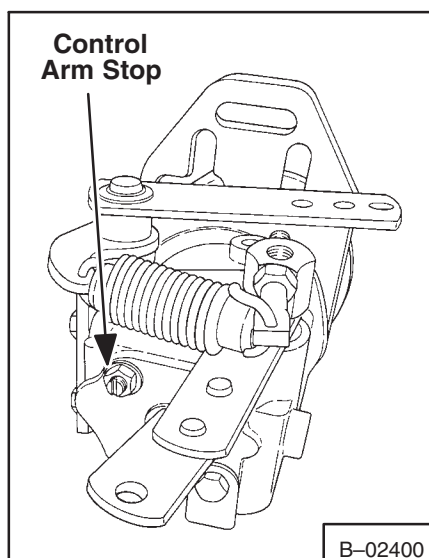

**Fig. 7B-5** Throttle/Governor Adjustment
7. Make adjustment of the linkage so the distance between the pivot points is 4.875 inches (123,8 mm), (Fig. 7B-6).